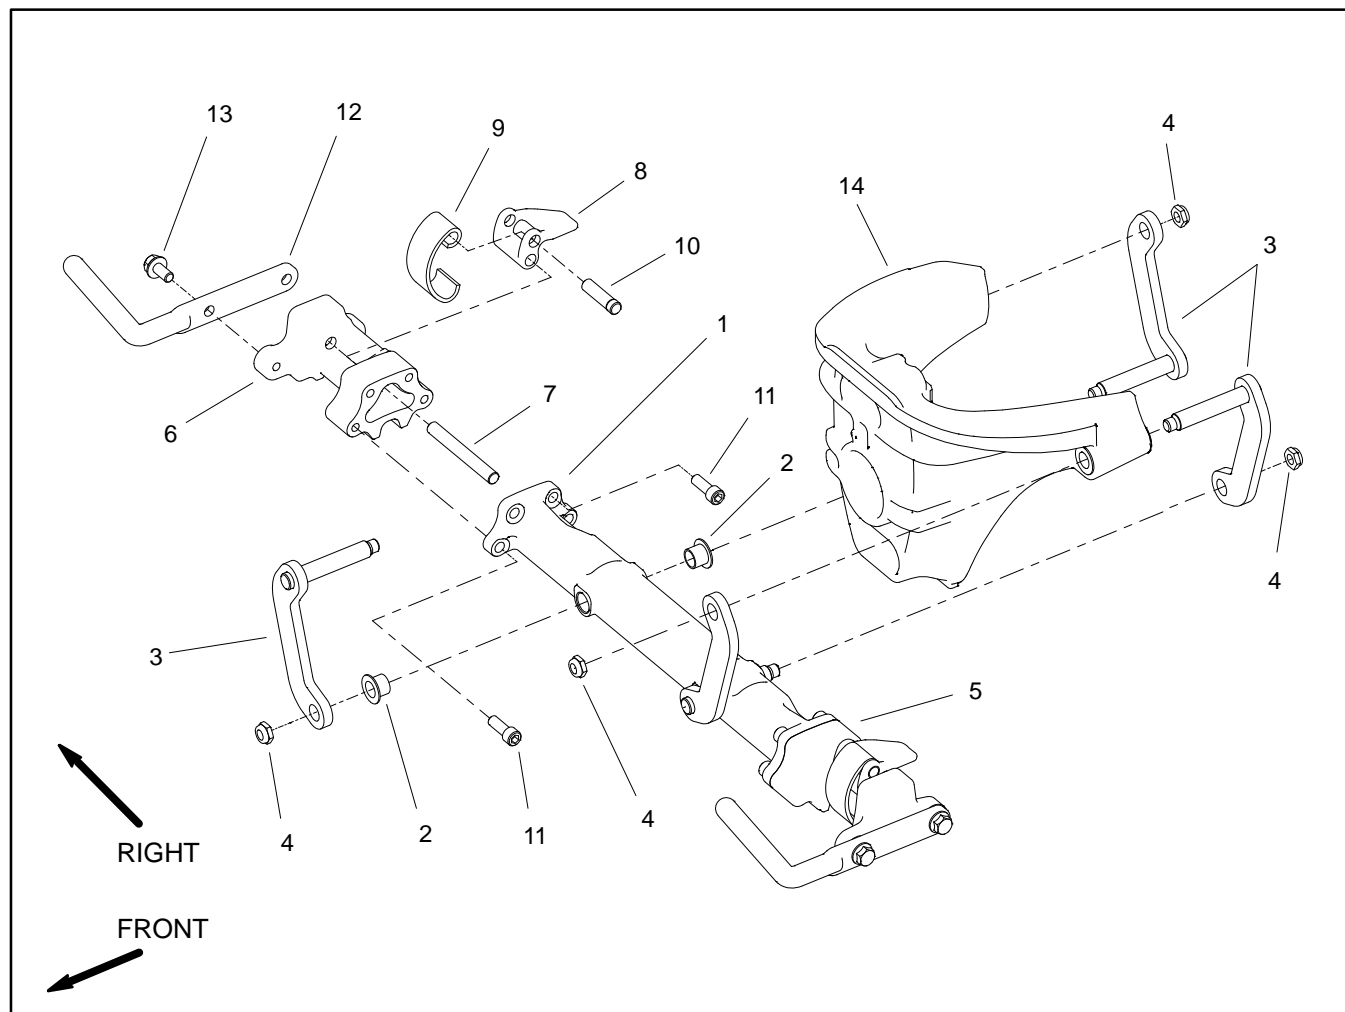

Figure 17
### Disassembly (Fig. 17)
4. Disassembly crossarm assembly as required using Figure 17 as a guide.
**NOTE:** The flange head screws (item 13) used to secure the basket horn (item 12) to the crossarm assembly have a patch lock to prevent loosening of the screws. If screws are removed, replace screws.
### Assembly (Fig. 17)
1. Assemble crossarm assembly using Figure 17 as a guide.